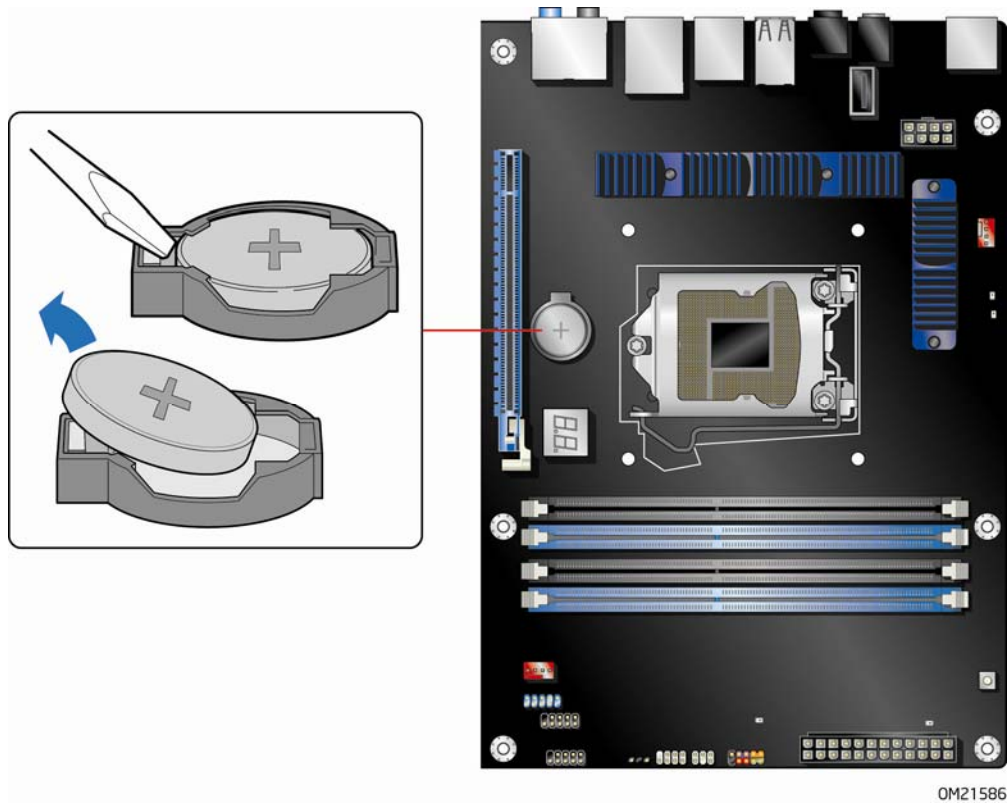

Figure 33. Removing the Battery
When the voltage drops below a certain level, the BIOS Setup program settings stored in CMOS RAM (for example, the date and time) might not be accurate. Replace the battery with an equivalent one. Figure 33 on page 66 shows the location of the battery.
4. Locate the battery on the board (see Figure 33).